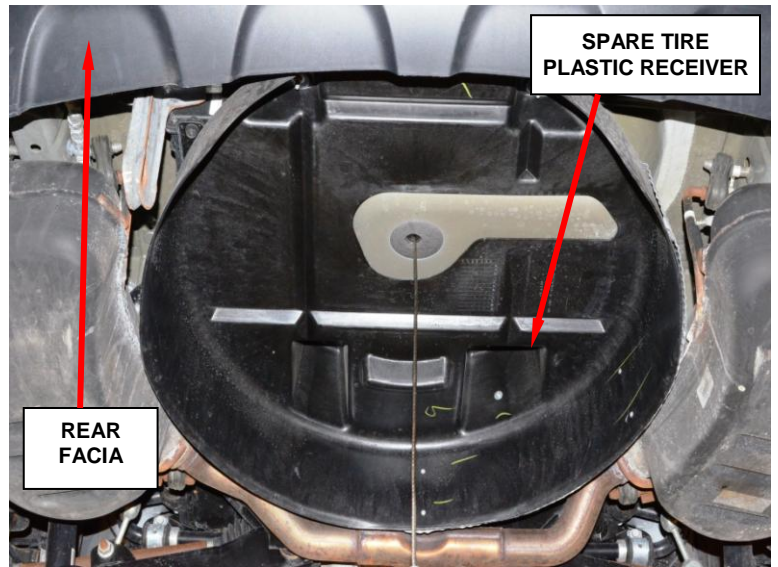

Figure 21 – Spare Tire Plastic Receiver
31. Remove and save the spare tire plastic receiver (Figure 21).
54. Install the spare tire plastic receiver (Figure 21).